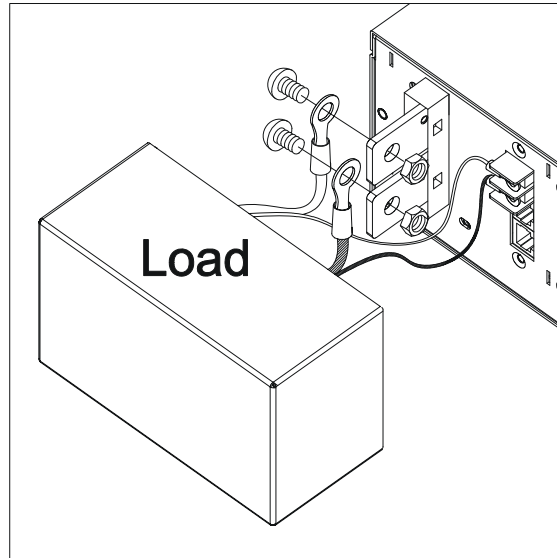

Figure 2-12
2. Figure 2-12 shows the correct connection. Use two wires to connect the positive/negative connector of load to the remote sensing connector on the rear panel. The connecting wire diameter must be larger than 30AWG and its withstand voltage should be within the specification.